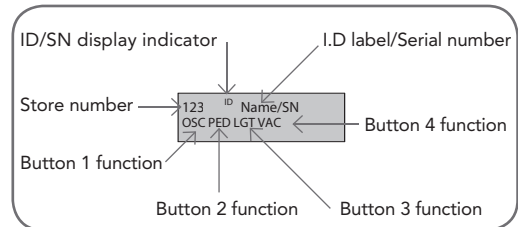

fig 23
The GDO-10V2L2 can store up to five hundred and eleven (511) transmitters in its memory. Each transmitter can be allocated an alpha-numeric ID label up to eleven (11) characters in length and each button can be assigned to one of several control functions. The settings for a transmitter are represented in **Fig. 23**. It shows the transmitter's store number, ID label or serial number and the functions assigned to each of its four buttons. To toggle between ID/SN display, press UP/DOWN with the cursor on the ID/SN indicator. The procedures below code, delete, replace, edit and copy transmitter records.